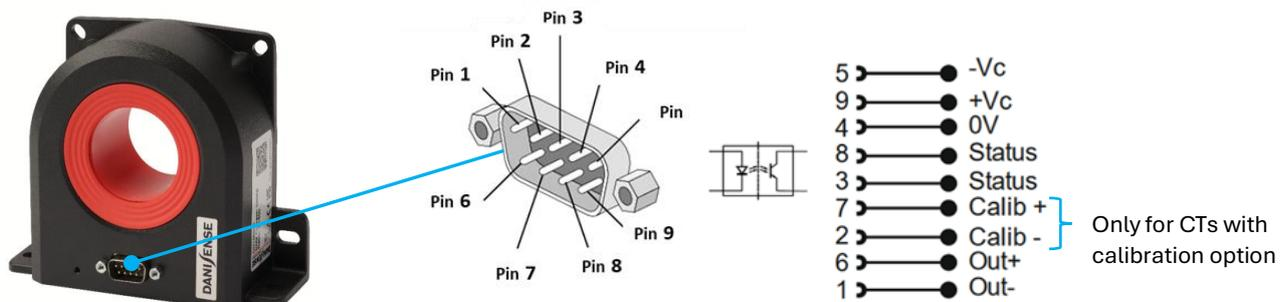

Figure 4: The pin assignment of the DSUB socket of a current transducer with current output signal
- $R_M$  calculation acc. figure 4 with  $R_{W2} = 0.05 \Omega$